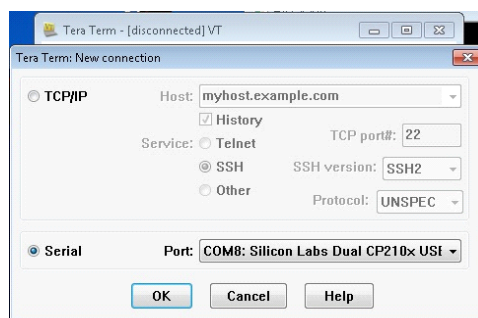

Figure 4-1: COM8 Port Selection
3. Start TeraTerm, serial mode. There are two com ports with Silicon Labs Dual CP210x USB drivers – use the one with a smaller index (COM8 in this example, see Figure 4-1).